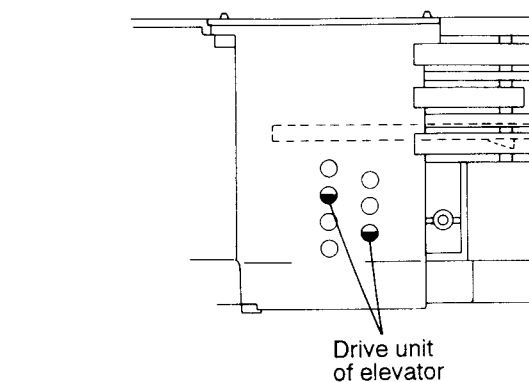
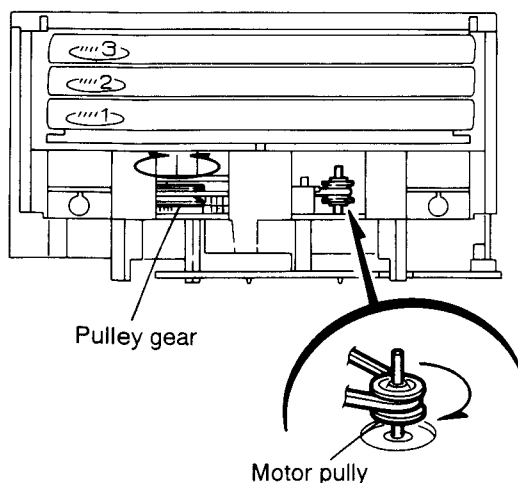

Fig.5-21a
Fig. 5-22
12. Make sure that the driver unit elevator is positioned as shown in Fig. 5-21a from to the second or fifth hole on the left side face of the CD changer mechanism.
[Caution] In case the driver unit elevator is not at the above position, set the elevator to the position as shown in Fig. 5-21a by manually turning the pulley gear as shown in Fig. 5-22.
13. Manually turn the motor pulley in the clockwise direction until the lifter unit stopper is lowered from the section (F) of CD tray assembly (See Fig. 5-22).